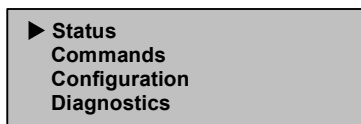

Figure 61: Main menu
1. On the main menu, scroll to Status. (See Figure 61.)